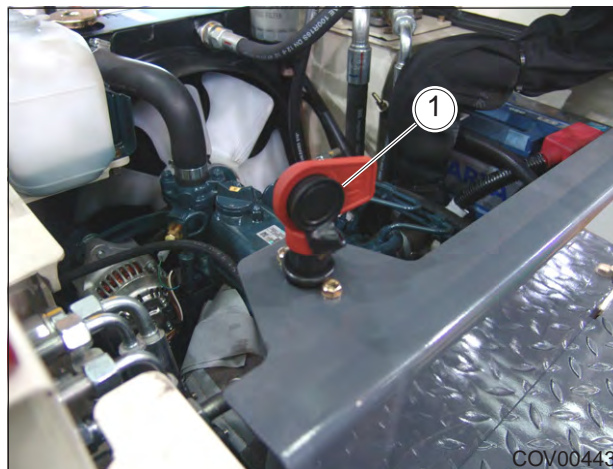

Figure 4.5 - Battery Isolator
The battery isolator; Figure 4.5, is both a maintenance aid and an anti-theft and vandalism device. It has a removable key 1.